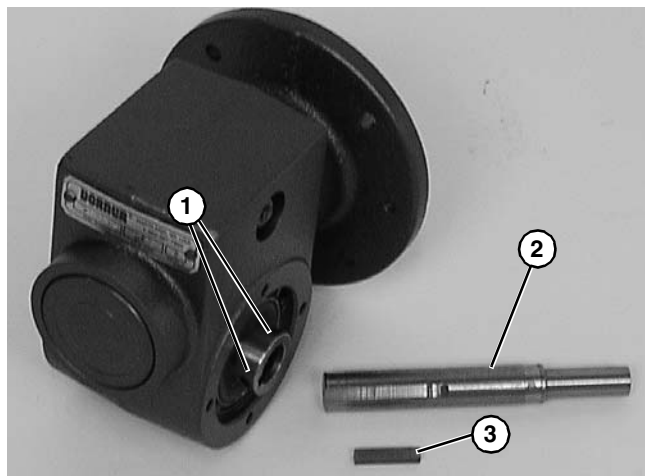

Figure 33
1. Loosen six (6) set screws (**Figure 33, item 1**). Remove drive shaft (**Figure 33, item 2**) and key (**Figure 33, item 3**).
3. Replace the original shaft components into new gear reducer (**Figure 33**).